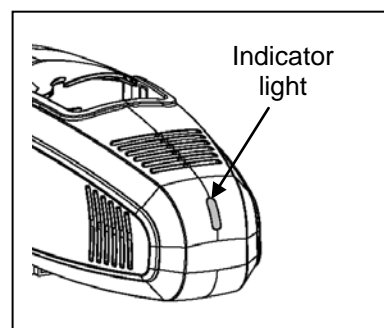

Fig. 5
- Note the indicator light on the back of the pump. This light indicates whether or not the UV light is on or off. Fig. 5